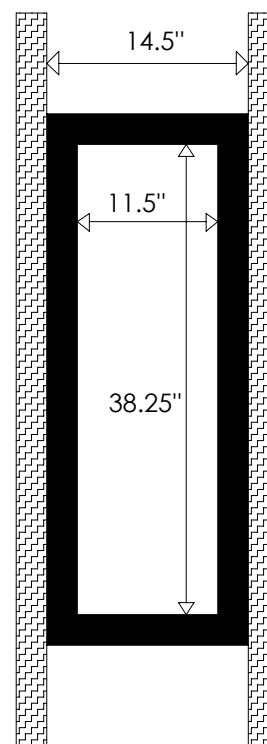

Figure 15
2. Use 2x6s to create a frame with 38.25" x 11.5" (971.6mm x 292.1mm) internal dimensions (Figure 15). Secure to existing studs with nails or woodscrews.